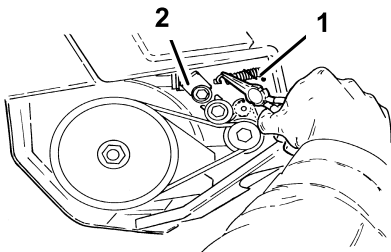

Figure 17
- Remove the idler spring from the idler arm (Figure 17).
- Assemble the idler spring (Figure 17), ensuring that the idler pulley rides on the belt.